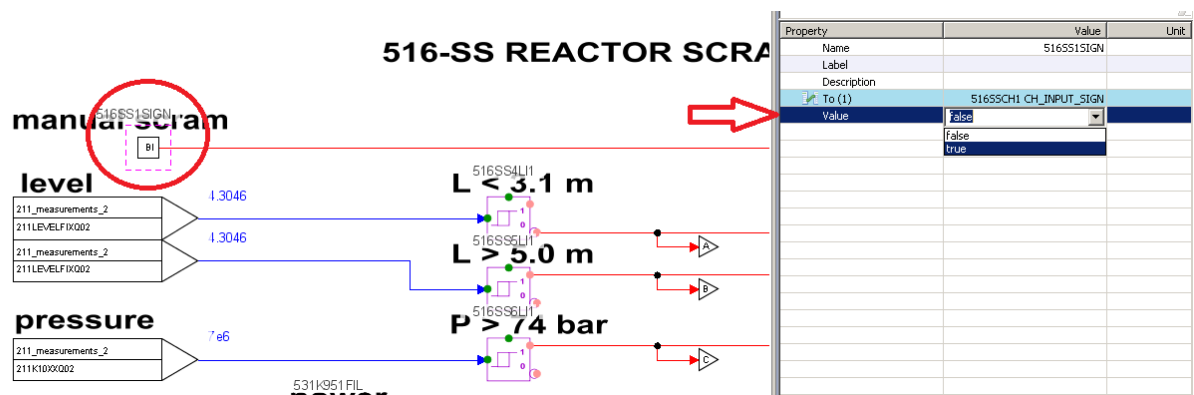

Figure 17. Enabling the reactor scram signal
8. Change the Manual reactor scram signal "516SS1SIGN" in the "516_ss_v" diagram to "true" (see Figure 17). This leads to normal scram operations of e.g. running down the main circulation pumps and moving the control/scram rods into the core. Turbine trip is triggered automatically 10 s after the scram.